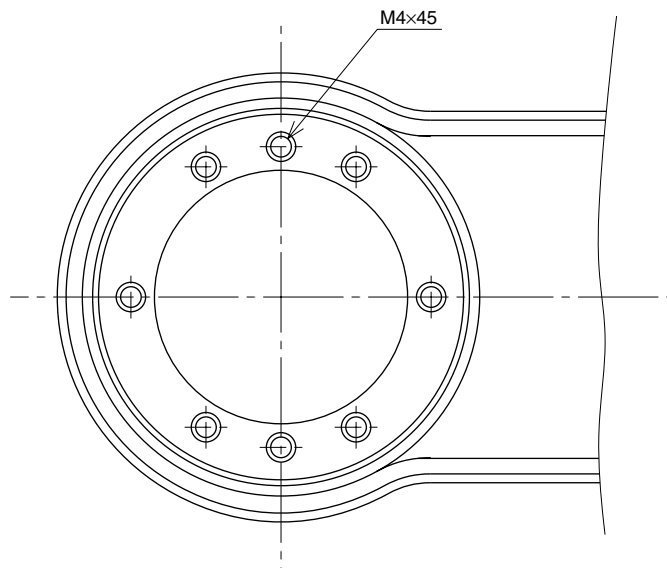

Fig. 5-43
(See Fig. 5-43.)
- 14) Place the new harmonic drive on the X-axis arm, and secure it with the bolts (M4×45L, 8 pieces) you removed earlier. Apply small amounts of “Screw Lock” to the bolts and tighten them uniformly to secure the harmonic drive from the backside. (See Fig. 5-43.)